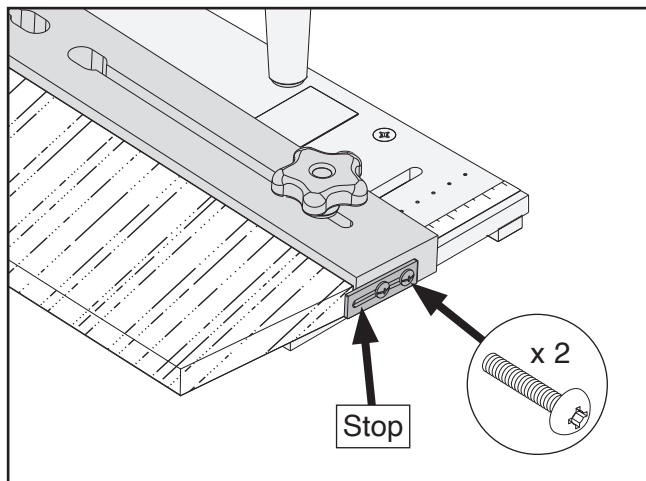

Figure 18. Location of stop screws.
- For workpiece with pre-drawn cut line, adjust fence until cut line is aligned with blade kerf, then tighten (2) fence knobs to secure.
5. Loosen stop screws, adjust stop as far out as the operation allows to provide as much workpiece support as possible (see **Figure 18**), then tighten screws to secure.